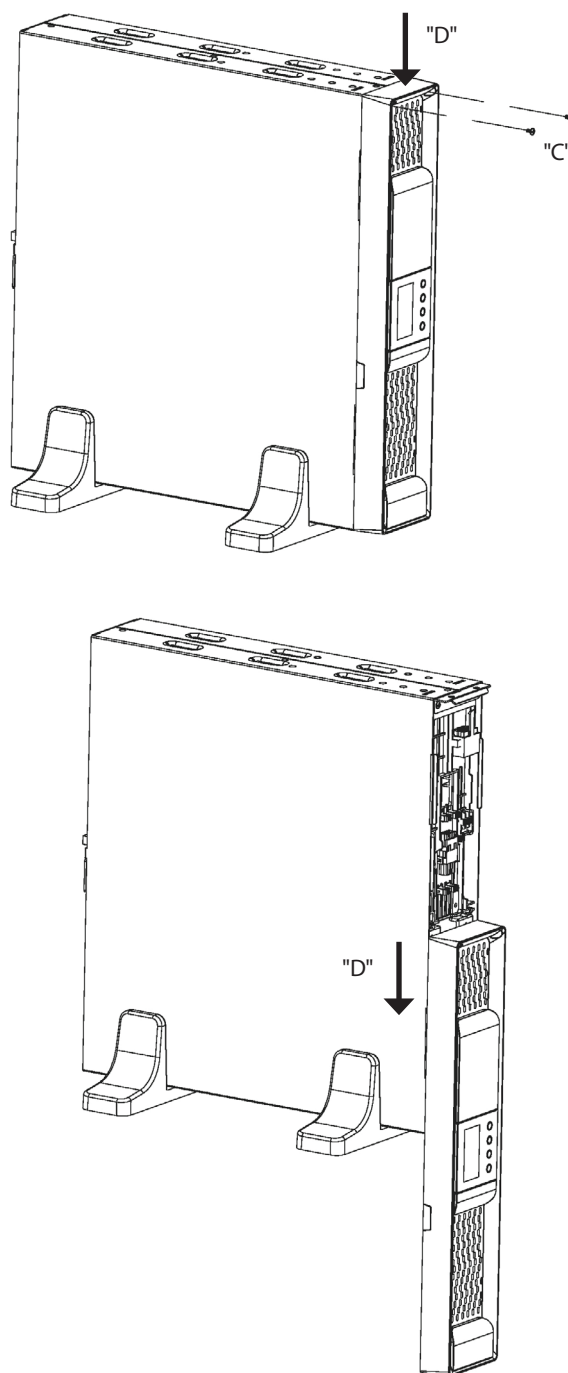

Fig. 4. Taking out the front cover.
- To take off the front cover, proceed as follows (see figure 4):